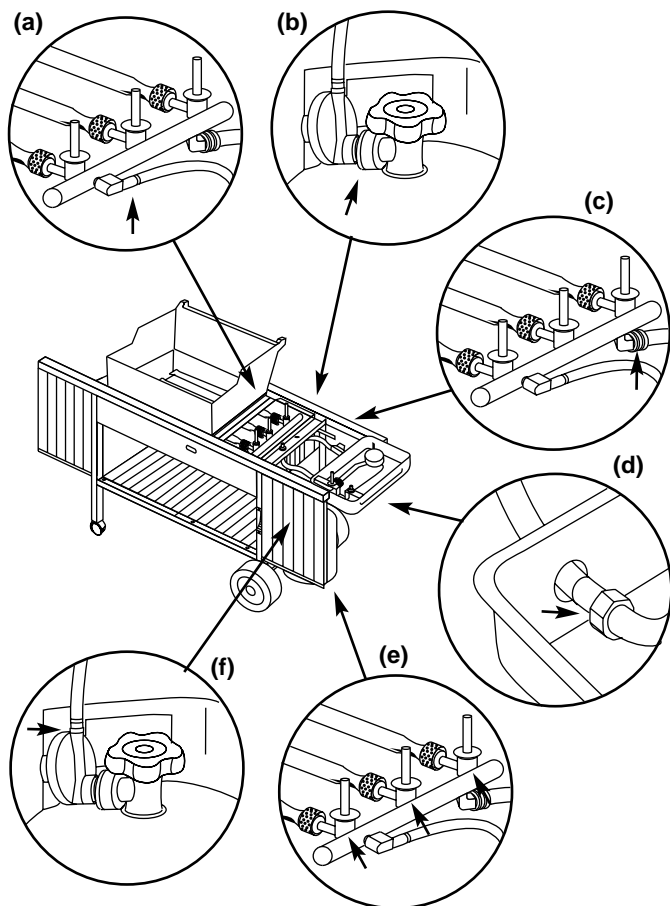

Figure 35
- a) Hose to manifold connection. Figure 35 (a).
- b) Regulator to tank connection. Figure 35 (b).
- c) Manifold to side burner hose connection. Figure 35 (c).
- d) Side burner hose to side burner connection. Figure 35 (d).
- e) Valves to manifold connections. Figure 35 (e).
- f) Hose to regulator connection. Figure 35 (f).